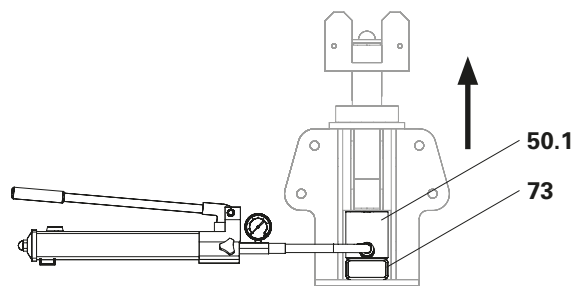

Fig. E2.01a
1. Position the hydraulic cylinder (**50.1**) on the Head Spindle Tube ATS (**73**). (Fig. E2.01a)